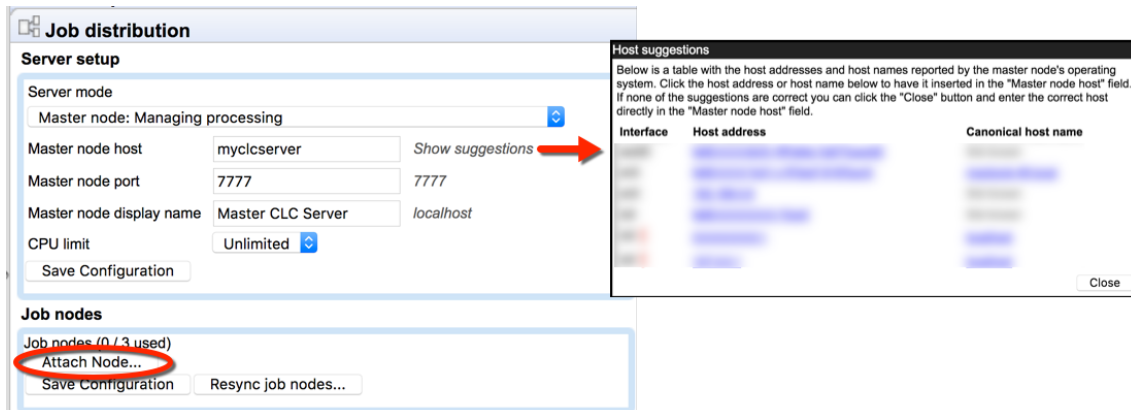

Figure 6.2: Setting up a master server.
- Click on the **Attach Node** button to specify a job node to attach. See figure 6.2.
Once set up, job nodes automatically inherit all configurations on the master node. If one of the job nodes gets out of sync with the master, click the **Resync job nodes** button, shown in figure 6.2. This should not be done while jobs are running on any nodes. The server can be put into Maintenance Mode to allow current jobs to complete before maintenance tasks are carried out. See section 7.3.